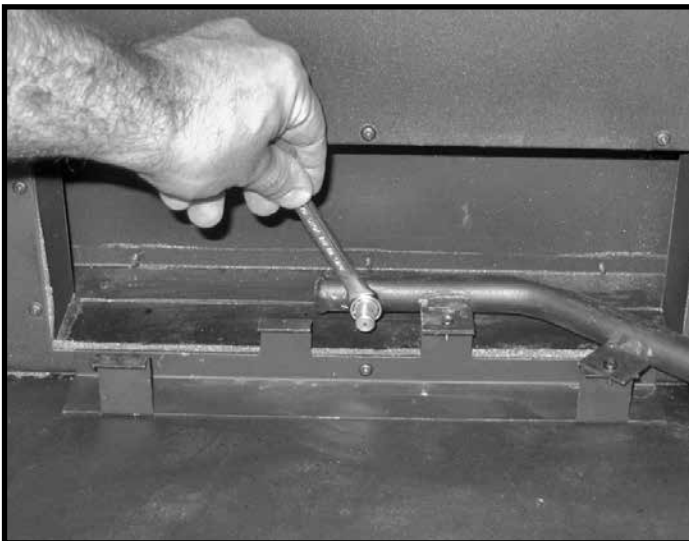

Figure 17: Replacing the orifice.
2. With a 1/2" wrench remove the natural gas orifice (Figure 17) and replace with propane orifice included in the SIT conversion kit.